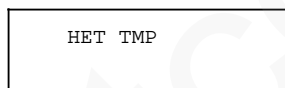

Figure 2. Display
7. Switch on the power, while pressing the [UP] key on the setup tool. The setup tool should display the temperature reference number (figure 2).